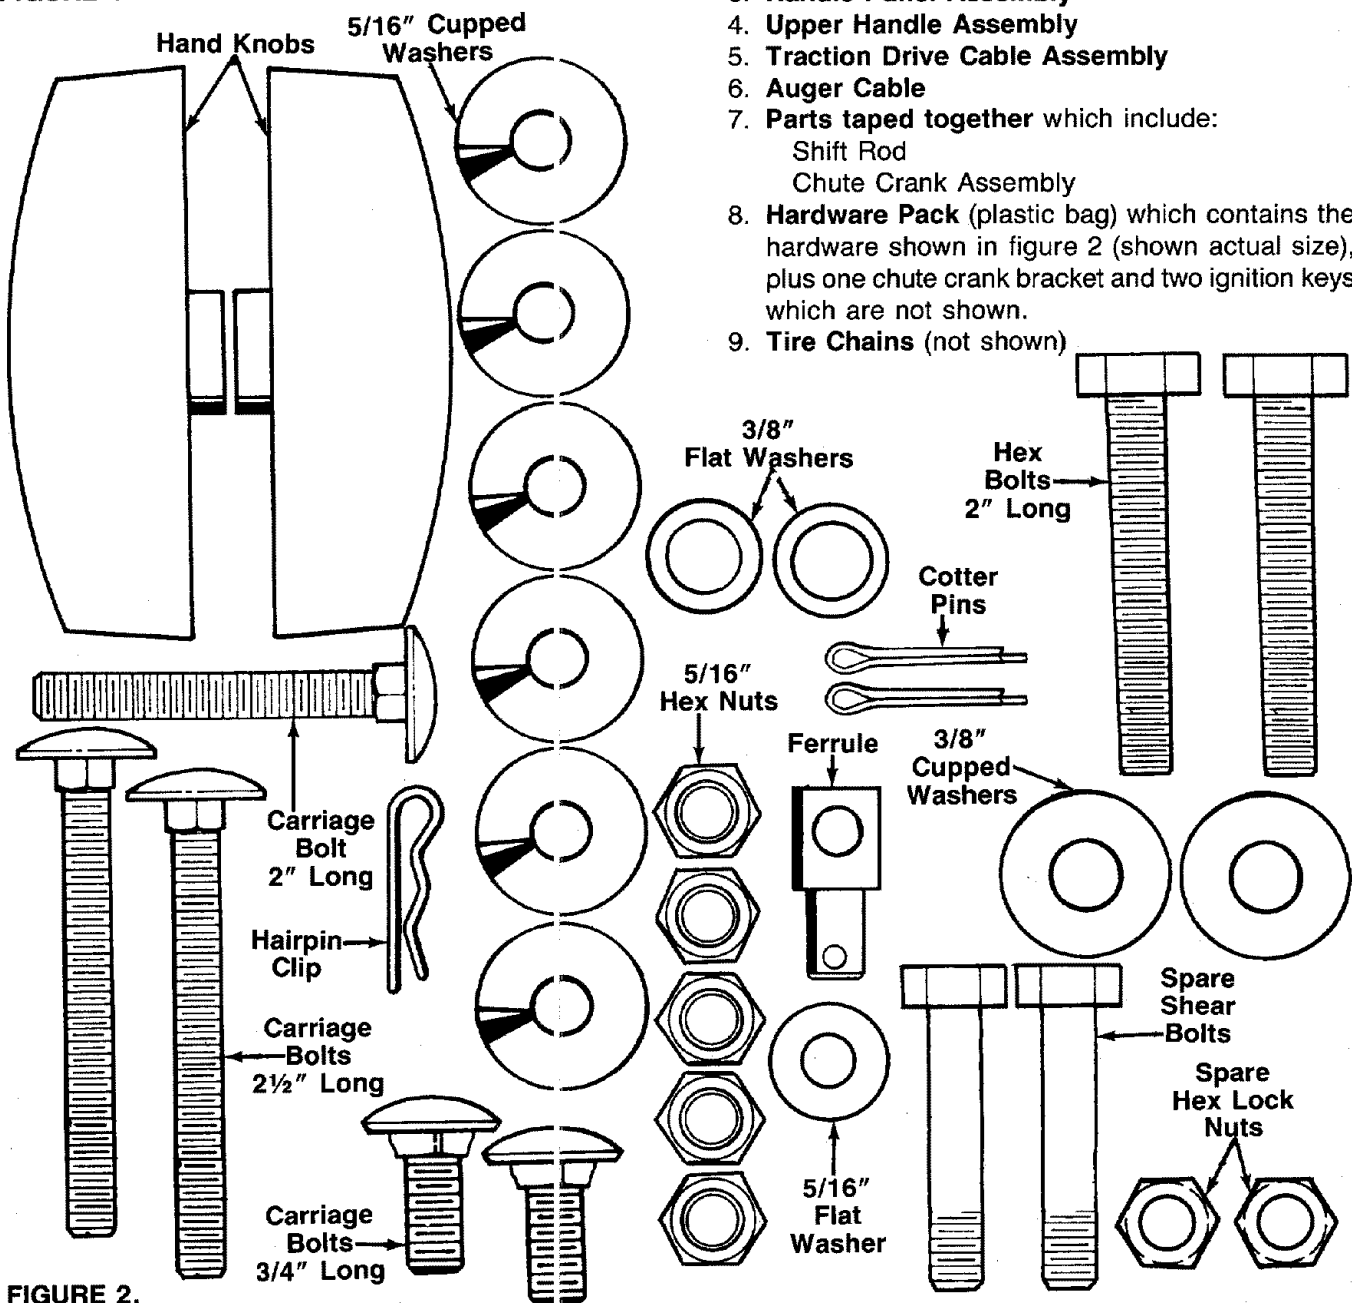

FIGURE 2.
- 8. Hardware Pack (plastic bag) which contains the hardware shown in figure 2 (shown actual size), plus one chute crank bracket and two ignition keys which are not shown.